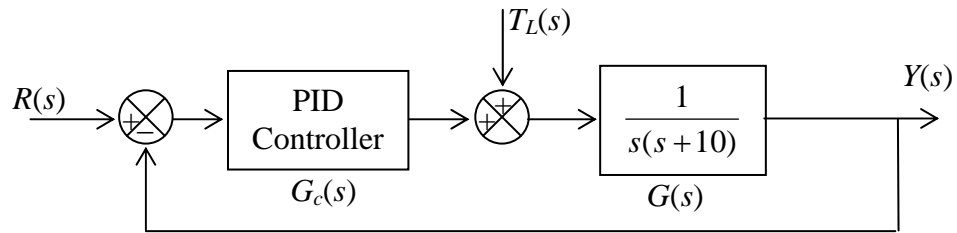

Figure 3
3. Consider the control system shown in Figure 3.